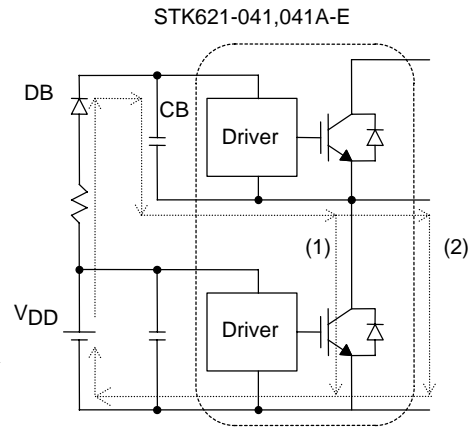

Figure 3 Bootstrap circuit and charge path
(4) VB1, VB2 and VB3 pins
These pins connect the positive power supplies for the upper-side power device pre-driver circuits. The three control power supplies each require an electrically insulated floating power supply. In addition to the method that uses three independent power supplies, this power supply can also be configured using the bootstrap circuit shown in Fig. 3. As shown in this figure, CB has a path (1) that is charged when the lower-side device is ON, and a path (2) for motor regeneration mode. The CB section voltage fluctuates according to the switching frequency and duty ratio of the external control circuit. Therefore, the CB capacitance value must be set in consideration of the voltage fluctuation. DB should use a high-speed type FRD with a fast  $t_{rr}$  and  $VR = 600V$ . RB is used to limit the rush charging current during CB initial charging. Note that a large rush charging current may cause the internal circuits to malfunction. CB can also be charged before startup by connecting high-value resistors to the output pins and minus pins. (Care must be taken for the withstand voltage and the power.)